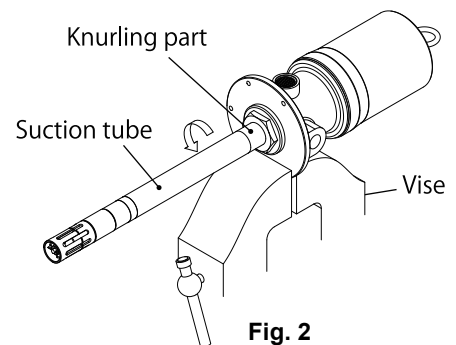

Fig. 2
- 3) Secure the air motor of the pump assembly in a vise. (Fig. 2)